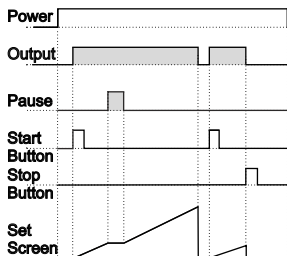

Figure 1.3
1.2.1 If Upcount \boxed{INC} = 0 and \boxed{OUT} is \boxed{ON} the control diagram is shown in Figure 1.3